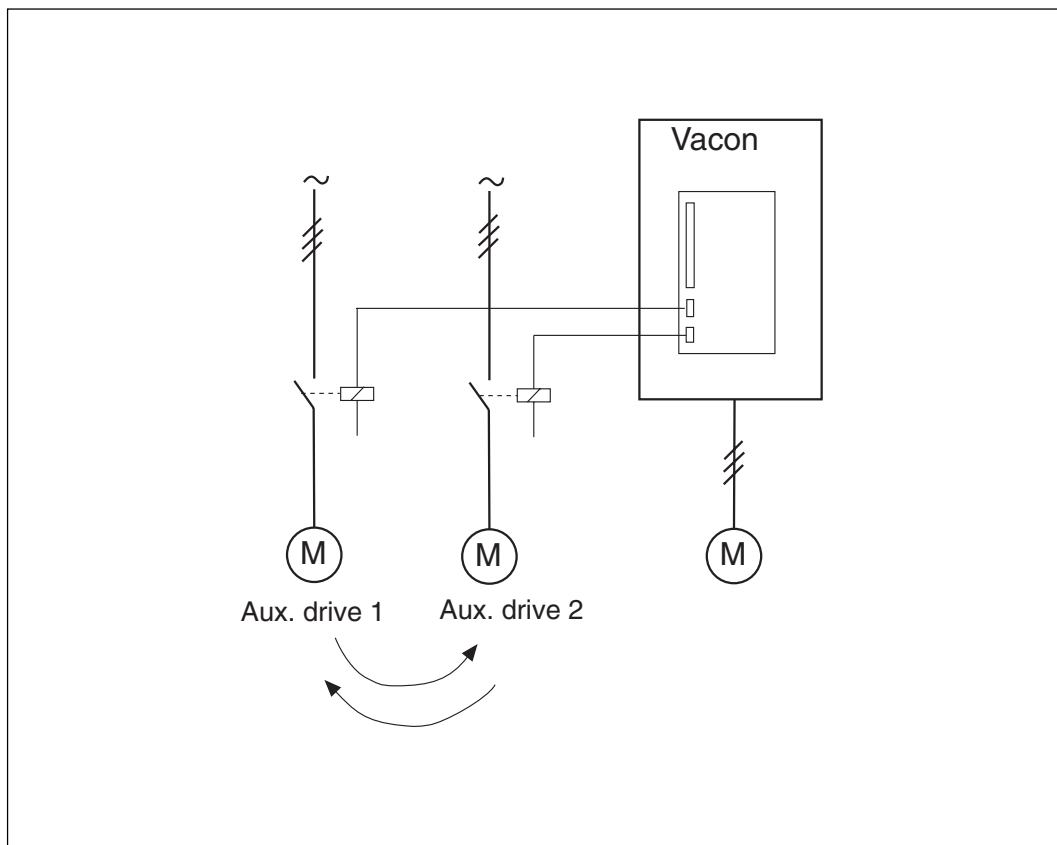

Figure 6-33 Autochange only with auxiliary drives
- 1 Autochange is done by changing the starting order of the auxiliary drives. See figure 6-33.